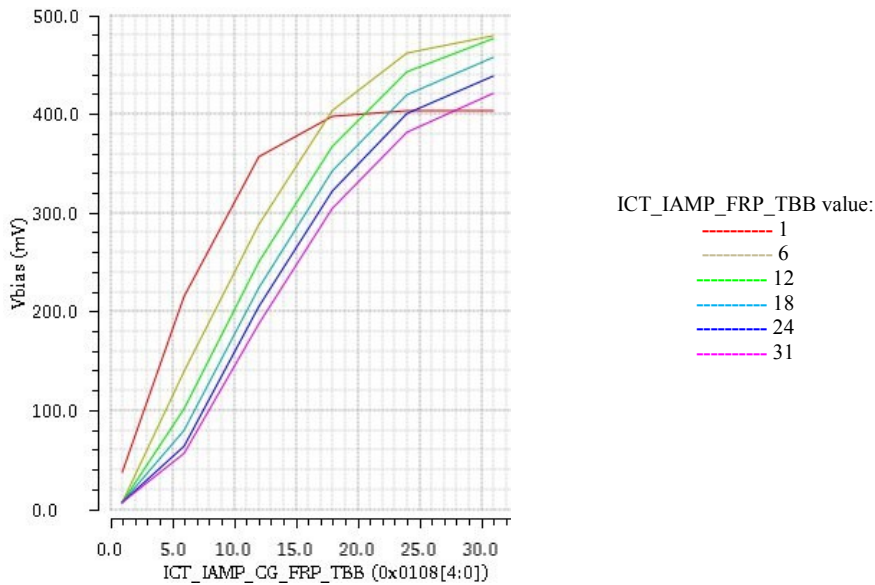

Figure 3. $U_{(A)bias}$ vs bias control value
3. $U_{(A)bias}$ value is affected by the bias controls ICT_IAMP_FRP_TBB (0x0108[9:5]) and ICT_IAMP_GG_FRP_TBB (0x0108[4:0]). Figure 3 shows typical $U_{(A)bias}$ value at various bias control codes.